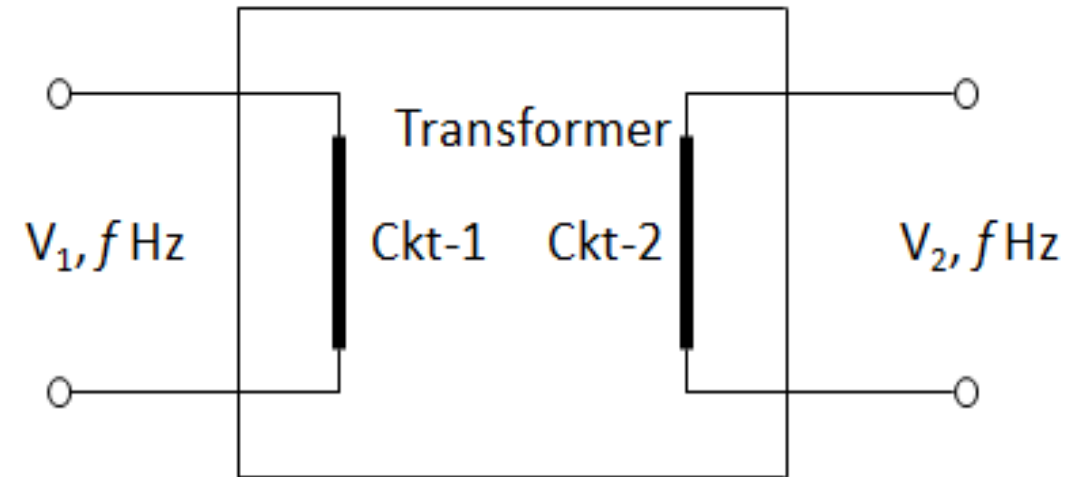

Fig.2.1 Block diagram representation of transformer
- Fig.2.1 represents the block diagram of a transformer.